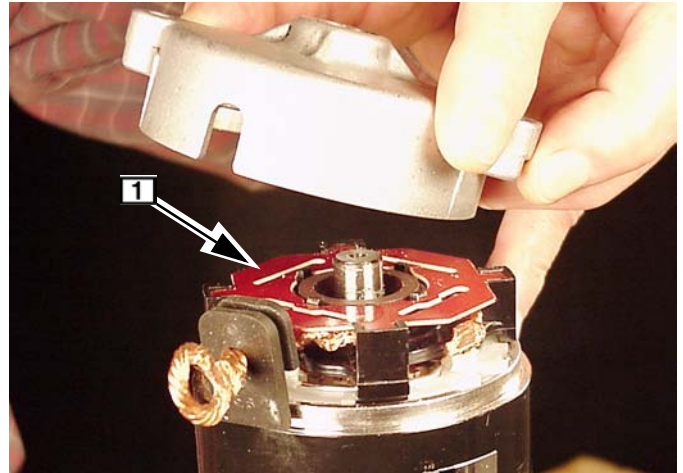

Fig. 103
For ease of disassembly and assembly, clamp drive end housing in a vise as shown, Fig. 103.
3. Remove brush end cap, Fig. 103.
NOTE: To prevent losing brush springs, do not remove brush retainer **1** until starter housing has been removed from drive end cap, Fig. 103.